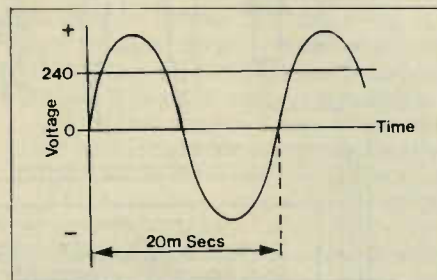

Figure 1. Alternating current.
You may know that the 'mains' supply in this country is described as Alternating Current (AC); this means that the current, and the voltage, is constantly changing. This is not on an irregular basis, but smoothly and regularly 50 times every second. If you think that sounds fast it is really quite slow compared to radio frequency (RF) voltages which may alternate at anything up to many millions of times per second. So, we have this alternating supply, and a graph of the mains voltage against time would look like Fig. 1. Since the supply voltage alternates, 50 times each second, its frequency is 50 hertz, hertz being the units used for describing frequency named after Heinrich Hertz, but that's another story. The voltage of 240 volts marked on Fig. 1 is the value used to describe the mains voltage, i.e. 240 volts AC. Some of you will have recognised the curve shown in Fig. 1 as a sine wave, and that the value of 240V is the Root Mean Square value, or RMS for short. If you didn't know that don't worry, use it to impress your friends; it's actually the value of Direct Current (DC) needed to produce the same heating effect in a resistance. You may well be wondering what all this has to do with our little DC power supply unit, and it's this: AC is great for getting the electrons from the Power Station into our homes, because it means that transformers can be used to step up the voltage for transmission, and then back down again. The heart of most psu's is a transformer which reduces the lethal 240V mains to a safer 20V or so. However, AC is not much good for powering circuits designed to